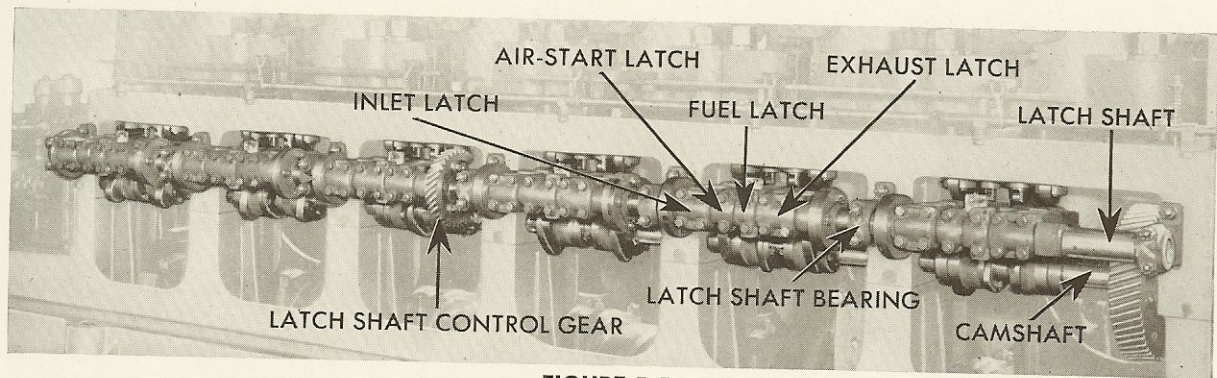

FIGURE 5-5
18. LATCH-SHAFT ACTION: The latch shaft moves the latches in or out by being turned half a revolution. The shaft is made up of six sections. Figure 5-5 shows the complete shaft assembled to the engine frame. Each section of the latch shaft consists of two journals, each journal between a coupling at the outer end and a disc at the inner end. The latch-fulcrum journal is between the discs, but off center, so that a turn of the latch shaft in its journal moves the latch-fulcrum shaft around in a circular path.
fulcrum journals are "in," with the latches in. The latch shaft is rotated by means of gearing. On some engines this gearing is connected to a hand wheel while on other engines the latch shaft is rotated by the pneumatic single lever control. The gear on the latch shaft is shown in Figure 5-5. The rest of the gearing will be described later.